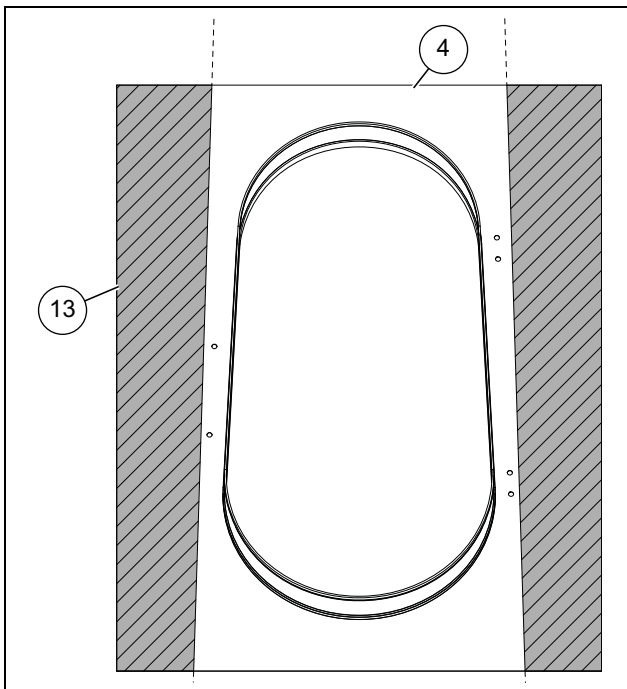

Figure 2 Trimming the Add-On Manway Panel
- Trim (13) the add-on manway panel (4) and make sure it fits between the roof ribs by placing on the existing roof panel (10). (See Figure 2.)